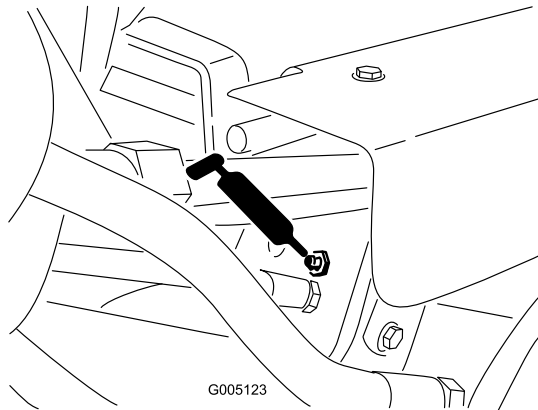

Figure 40
- Lift cylinders (3) (Figure 40)